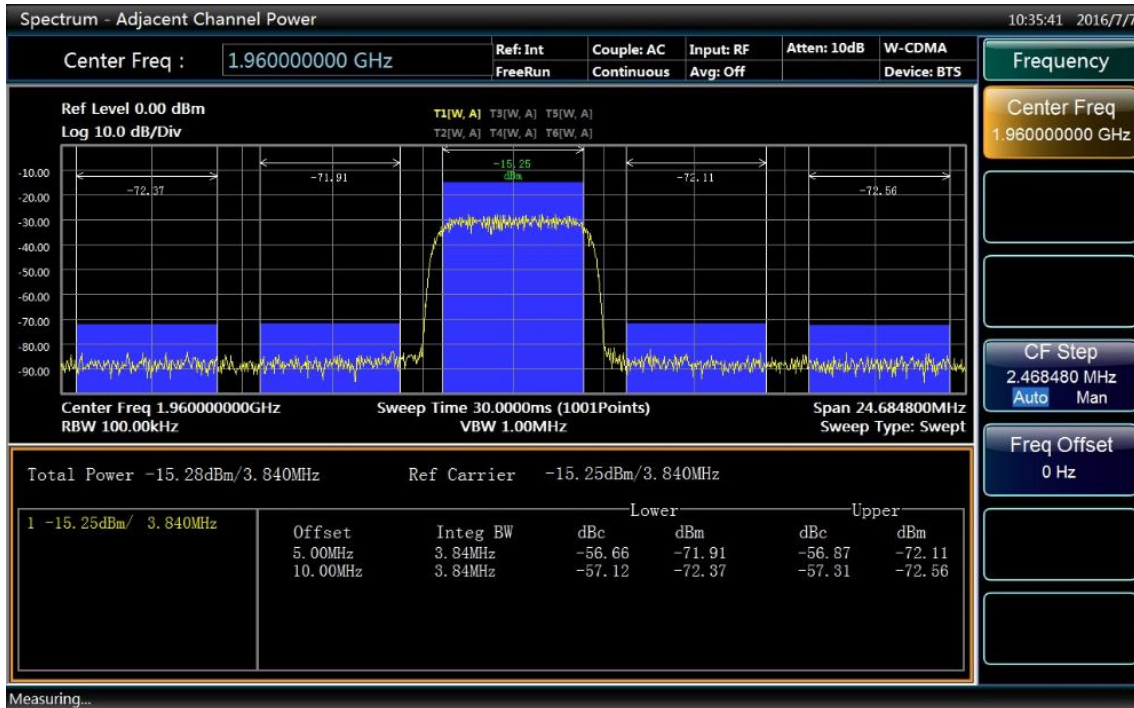

Fig 4.66 Results of Adjacent Channel Power Measurement
- Results of adjacent channel power measurements are shown in Fig. 4.66. Measurement parameters, including offset frequency, integration bandwidth, bandwidth setting and others are all adopted with default setting referred to wireless standard.